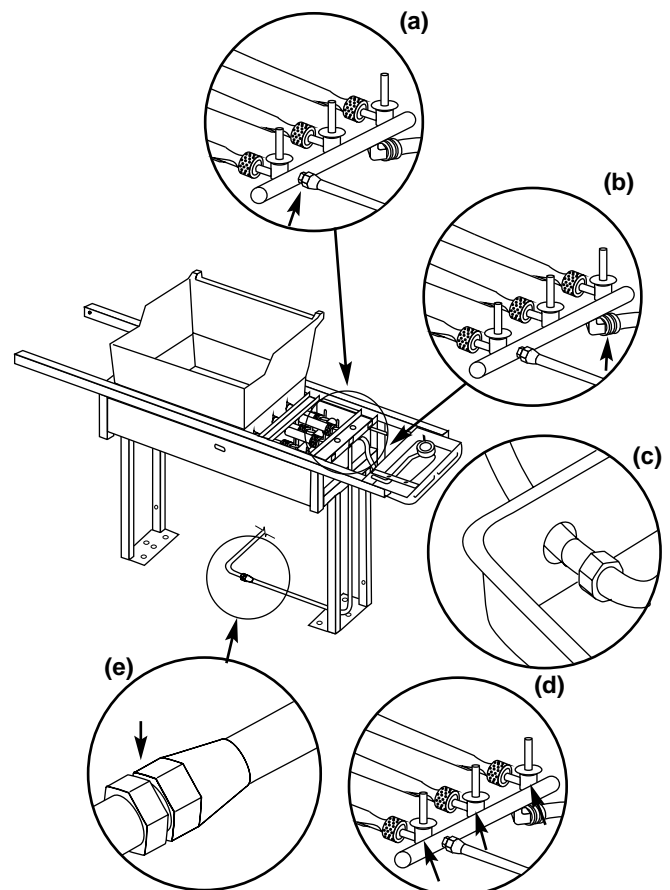

Figure 25
- a) Gas supply line to manifold connection. Figure 25 (a).
- b) Manifold to side burner hose connection. Figure 25 (b).
- c) Side burner hose to side burner connection. Figure 25 (c).
- d) Valves to manifold connections. Figure 25 (d).
- e) Barbecue gas supply line to natural gas supply connection. Figure 25 (e).